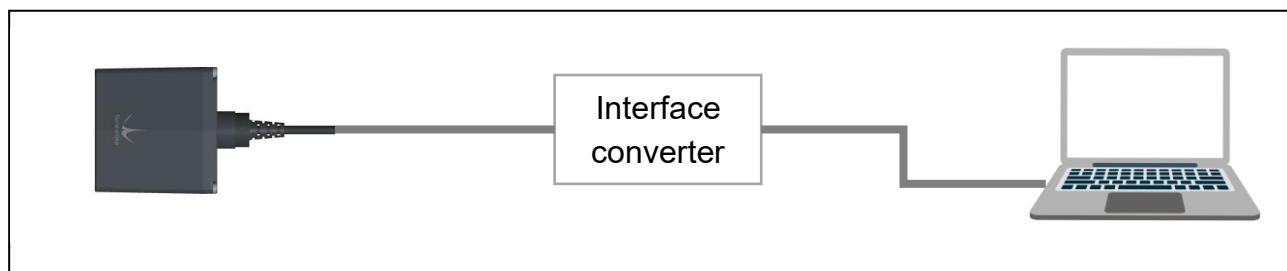

Figure 18 TF03 connecting to PC
- Connect TF03 to the PC or laptop with a **paired USB converter** cable as shown in Figure 18 TF03 connecting to PC. The UART version TF03 needs a UART-USB converter, and the CAN version TF03 needs a CAN-USB converter.